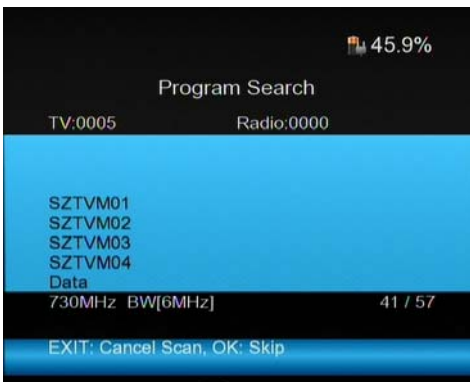

Figure7. Auto Scan page
- (8) Press <OK> button to delete the existing program and start the TP Scan. Or press <Exit> button to save the existing program and start the TP Scan. See figure 7.